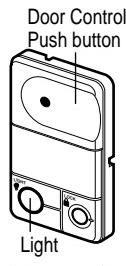

Figure 1
- Press and hold the light button on the door control, *Figure 1*.